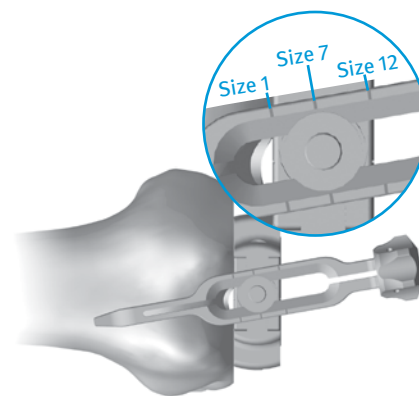

Fig. 16a
- Slightly extend the knee and retract soft tissues to expose the anterior femoral cortex. Clear any soft tissue from the anterior cortex. Ensure that the leg is in less than 90° of flexion (70°-80°). This will decrease the tension of the patellar tendon to facilitate placement of the Anterior Referencing Sizer Boom. The Anterior Referencing Sizer Boom telescopes proximally/distally to facilitate optimal placement along the anterior cortex. The engraved lines along the top of the boom approximate the anterior flange lengths of the size 1, 7, and 12 femoral components (Fig. 16a). Once the Anterior Referencing Sizer Boom is appropriately positioned, it should be locked in place by tightening the knob at the end of the boom clockwise (Fig. 16b).